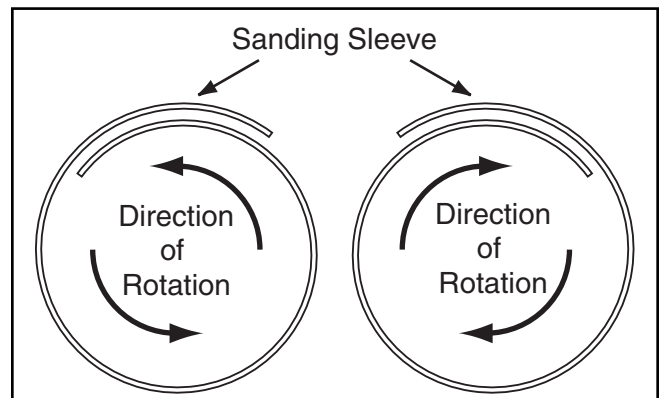

Figure 2. Sanding sleeve overlap direction.
3. Slide the sanding sleeve onto the drum. Ensure that the arrows on the inside of the sleeve point in the direction of the drum rotation. If there are no arrows inside the sleeve, slide the sleeve onto the drum so that the overlap is positioned correctly in relation to the drum rotation as shown in **Figure 2**.